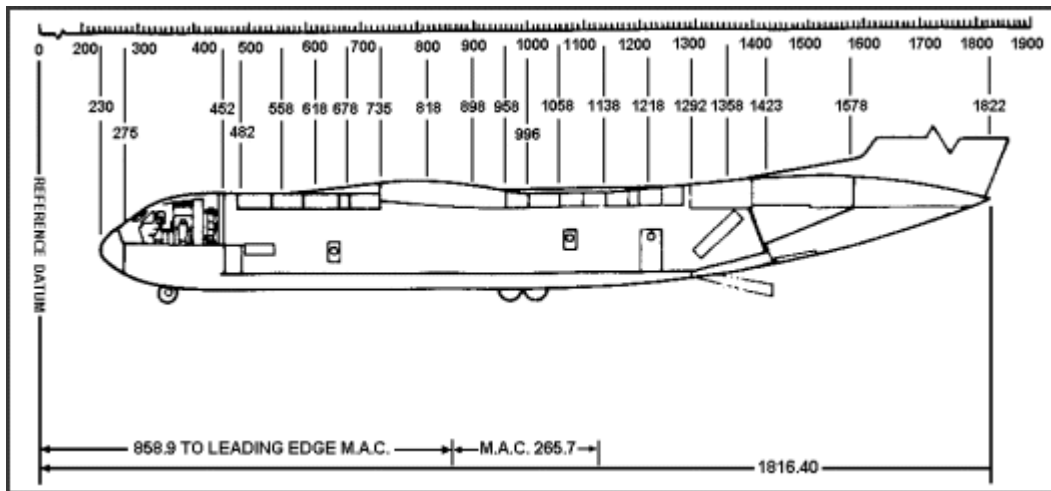

Figure 17-3. Airplane diagram (station/arm)
- I Aircraft stations, sometimes called fuselage stations, are measurements in inches aft of the RDL and are usually identified by a number on the wall of the aircraft. For example, station 520 in the aircraft is a point 520 inches aft of the RDL. These measurements or distances are used for determining the location of cargo in the aircraft and for computation of the aircraft CG. See Figure 17-3 for a diagram showing aircraft station/arm measurements.